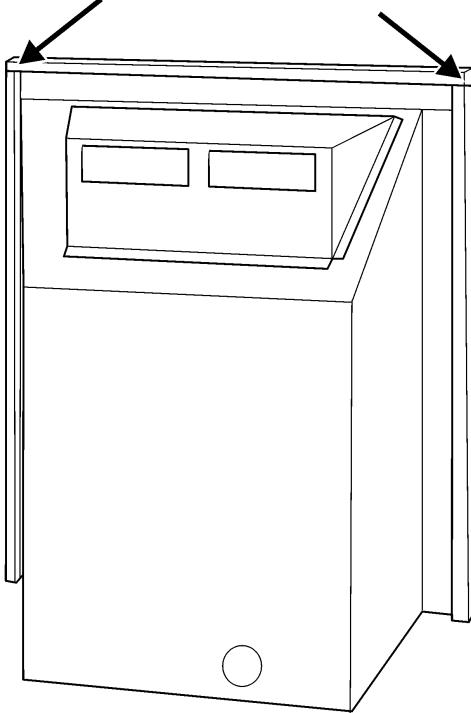

Figure 16. Fitting the foam seal
**8.** There is a length of self adhesive foam seal supplied with the fire. This will need to be fitted to the outer rear edges of the side and top flanges of the convection box. Cut a 485mm length of foam seal. Be careful not to stretch the seal when measuring. Remove the protective backing from the foam seal and fit this to the rear of the top flange (See figure 16). Cut two 580mm lengths. Fit these to the rear outer edges of the side flanges. Ensure that there is no gap between the foam seals where they meet at the top flange (See figure 16)